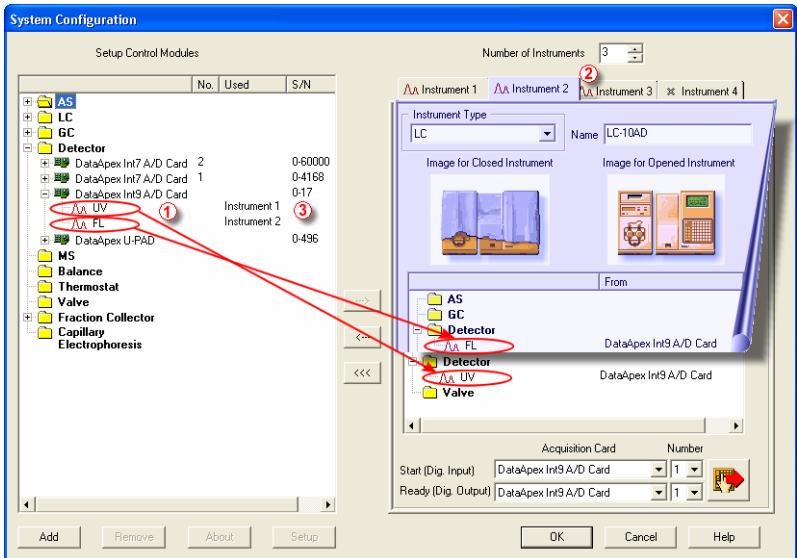

Fig. 5. System Configuration – multiple Instruments
Rather than dragging the entire **INT9 A/D Card Driver** icon from the **Setup Control Modules** list **①** (see Fig. 5), drag the individual detector signals (**TCD**, **FID** in this case) to separate Instruments **②**. The Instrument to which the particular signal is connected is listed to the right **③** of the detector name in the **Setup Control Modules** section.